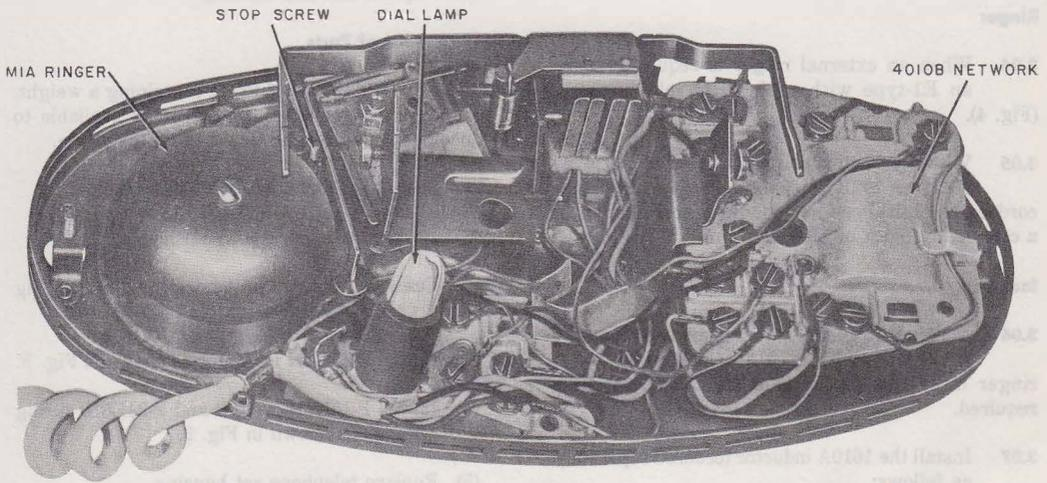

Fig. 3—702-Type Telephone Set, Dial and Housing Removed
**2.06** The 702B telephone sets (Fig. 3) are similar to the 701B which it replaces, except that an internal ringer (M1A) is provided.